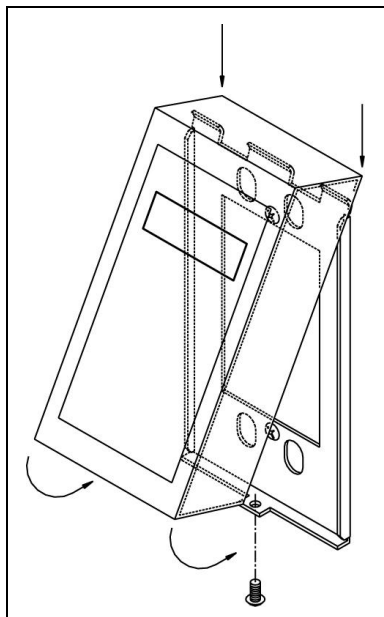

Figure 8: Final Controller Mounting
7. SUREFLOW™ Controller is attached to mounting bracket by sliding top of controller down on bracket and then snapping in bottom of controller case. The bottom mounting tab goes inside the controller box (Figure 8).